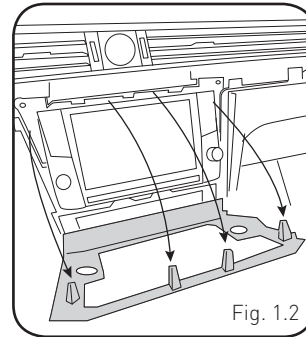

Fig. 1.2
2. Carefully remove trim from around radio with panel tool. (Fig. 1.2)